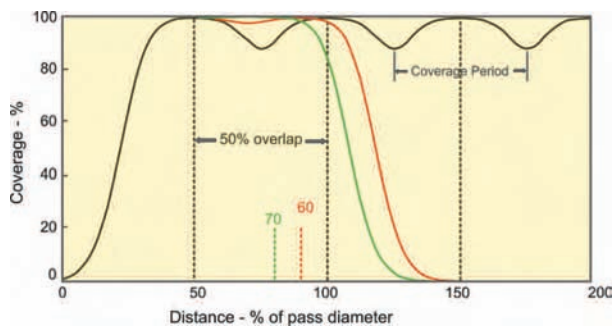

Fig.7 Effect of degree of overlap on coverage induced by parallel passes.
Substituting the value of **Ar** from equation (5) into equation (3) and then plotting gives the coverage variation shown in fig.7. The coverage varies in a cyclical manner from a maximum of 99% to a minimum of 87%. Repeating the exercise with a greater overlap, 60%, gives the result (also shown in fig.7) that coverage now varies from 99% to 97%. This might, or might not, be regarded as satisfying an overall "100% coverage requirement." Increasing the overlap to 70% certainly satisfies the requirement - the coverage minimum exceeds 99%. It is significant that the 'Coverage period' of the cyclical fluctuation of coverage is equal to the separation of the parallel stream centers.